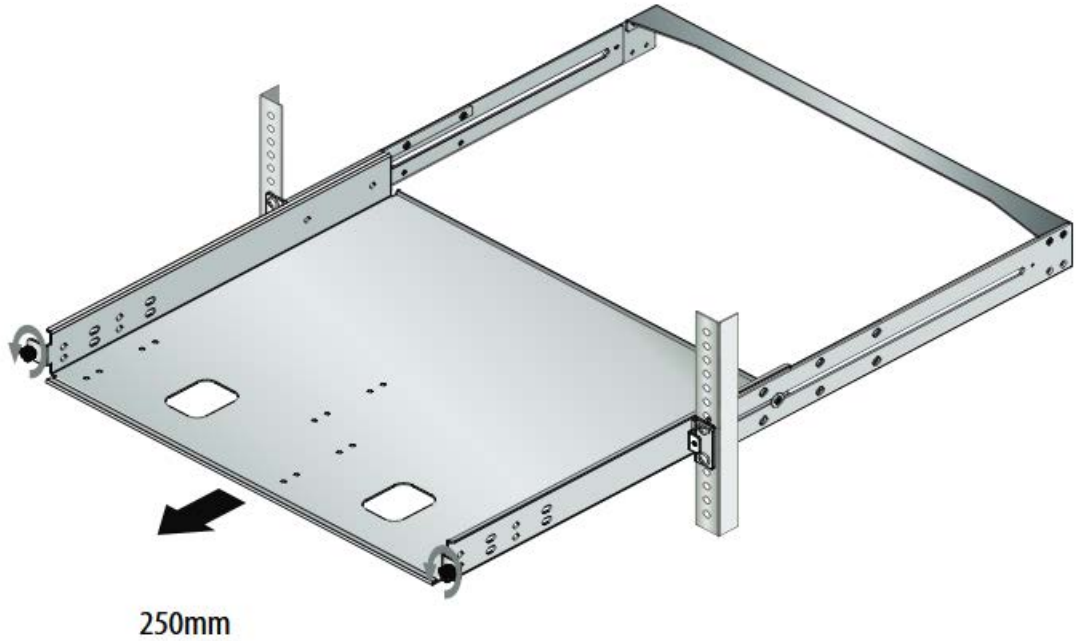

Figure 40. Pulling out the RKMT-J15 Tray
4. Turn the tray fixing screws on counter clockwise and pull out the tray. See Figure 40.